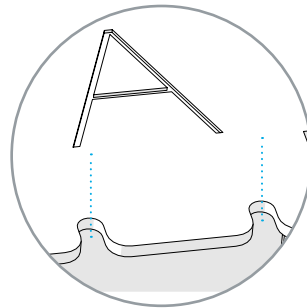

Fig. 79 - Installing the cover plate - Frame fixing points
3. Slide the cover plate  $\pm 20$  mm towards the centre of the gate so that the two (2) butterfly screws are correctly positioned in the slots of the frame. ( $\Rightarrow$  Fig. 79)